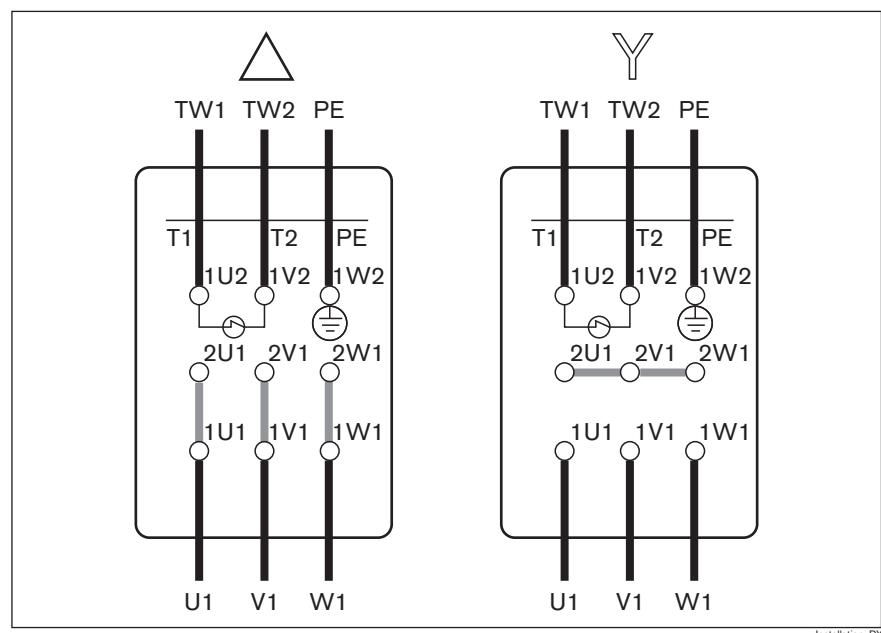

Fig. 9: Connection plans: delta connection/Y-connection
- Connect the motor as a Y-connection or a delta connection in accordance with the connection plans, see Fig. 9 on page 21 and the connection plan in the terminal box.
- Exchange any two wires (L1, L2, or L3, see Fig. 9 on page 21) to change the motor's rotational direction.